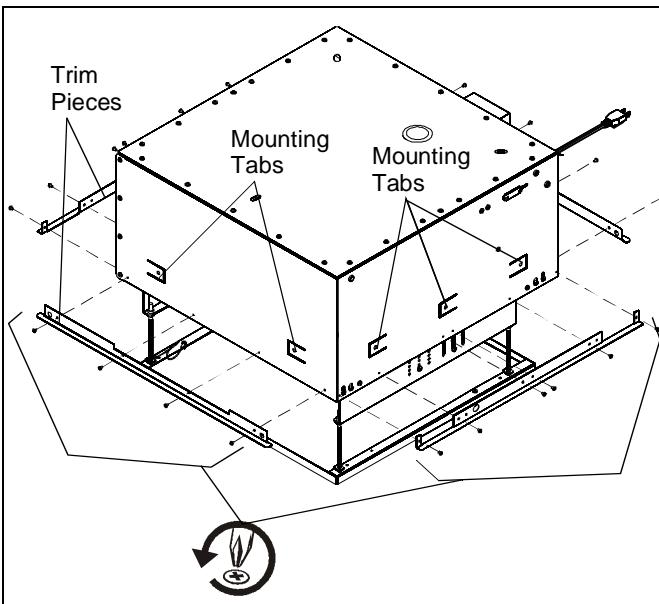

Figure 9
**NOTE:** The side trim may need to be removed to properly fit the lift into a 600x600mm suspended ceiling. Remove and discard retaining screws and trim pieces from each of the four sides. (See Figure 9)
1. Use 1/4" x 1-1/2" (minimum) Grade 2 lag screws (not provided) to secure SL151i to the joists or wood framework, using the mounting tabs located on the sides of the SL151i housing. (See Figure 9)
2. Use the provided push button (D) to operate the SL151i up and down, ensuring that all clearances are adequate.